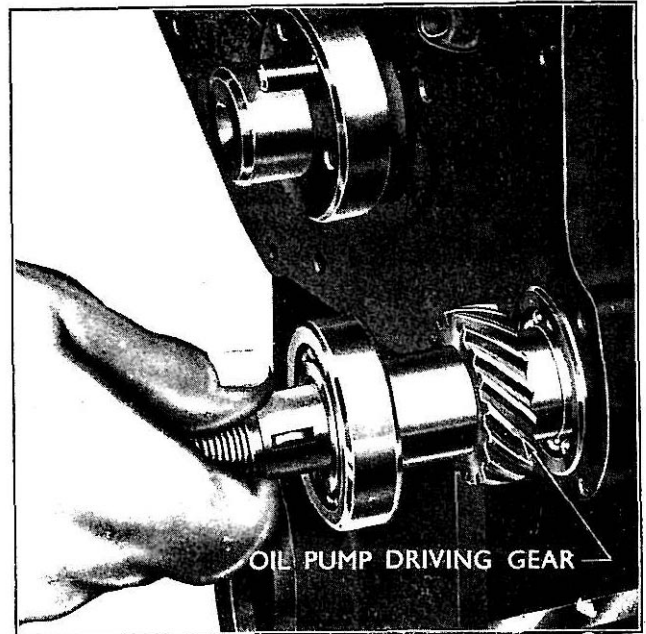

Fig. 38
- 3 Enter the shaft from the front of the block and tap it rearwards until the front bearing is flush with the front face of the block. (See Fig. 38.)